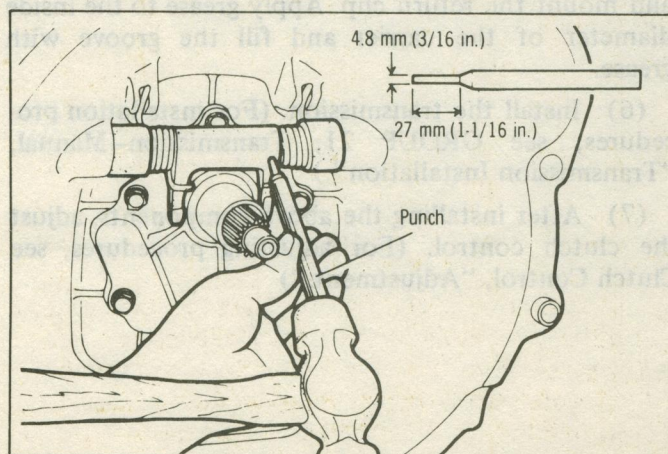

Fig. 7 Removing Spring Pins
(3) Remove the clutch disc and tool.
(4) Remove the return clip on the transmission side and remove the release bearing carrier and bearing.
(5) Using a 4.8 mm (3/16 in.) punch, remove the shift arm spring pin and control lever shaft assembly. Remove clutch shift arm, two felt packings and two return springs. (Fig. 7)